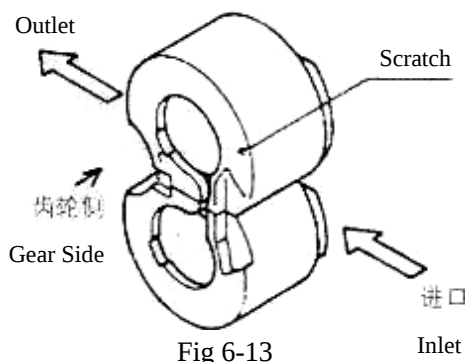
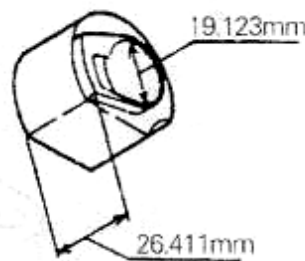

Fig 6-13
Fig 6-14
## (2) Examination of Bearing (Fig 6-13 and Fig 6-14)
Inner Diameter—19.123mm (Fig 6-14)